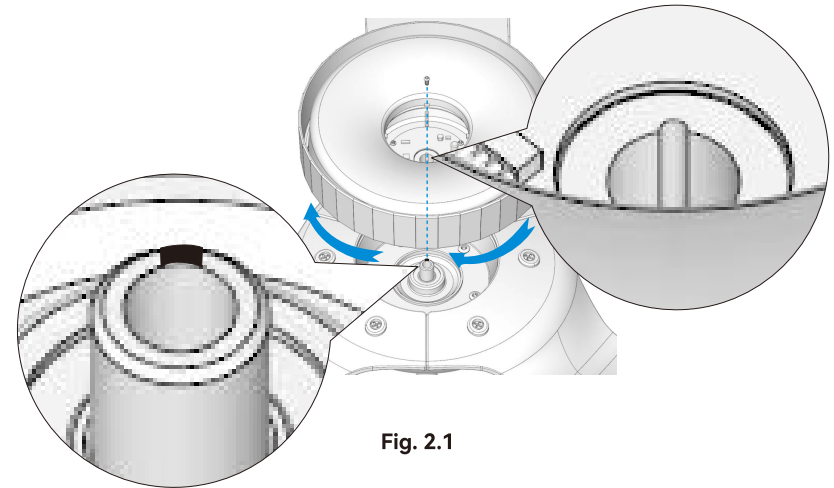

Fig. 2.1
2.1 Position the lampshade onto the motor hub. Feed the four wire plugs through the center hole of the lampshade. Rotate the lampshade clockwise until the slot inside the center hole aligns with the slot on the motor shaft (usually marked in black), forming a screw hole for the light kit screw, as demonstrated in Fig. 2.1.